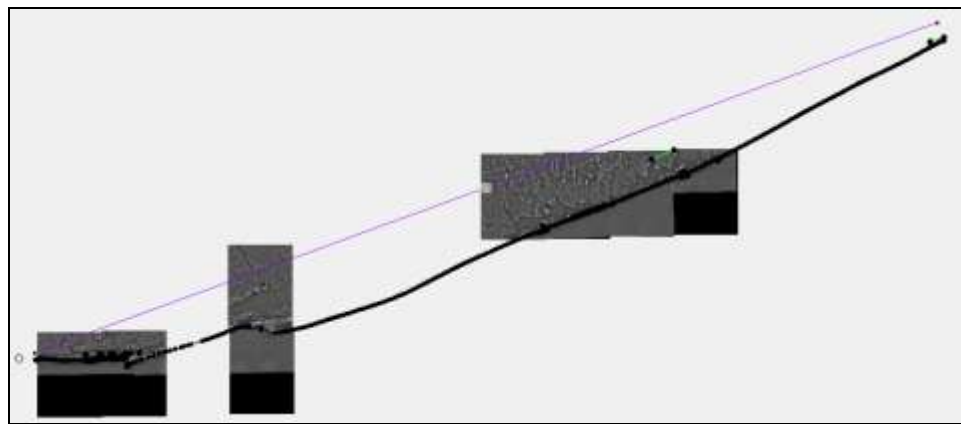

Figure 9 Location of 1D grid frame
3. Using the **Create 1-D Grid Frame**  tool, click once just above the top right of the project coastline to create a start point, then a second time just to the left of the Jones Inlet images to create the end point for the 1D grid (Figure 9).